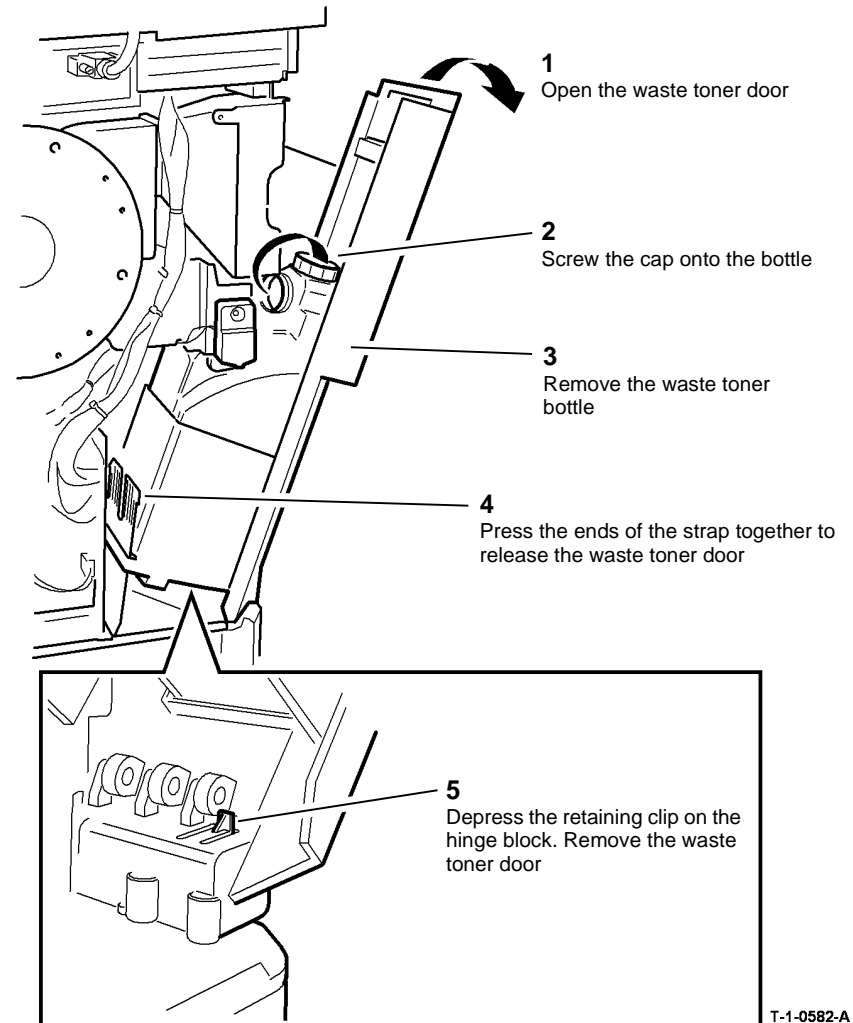

Figure 1 Waste toner door
2. Remove the waste toner bottle and the waste toner door, Figure 1.